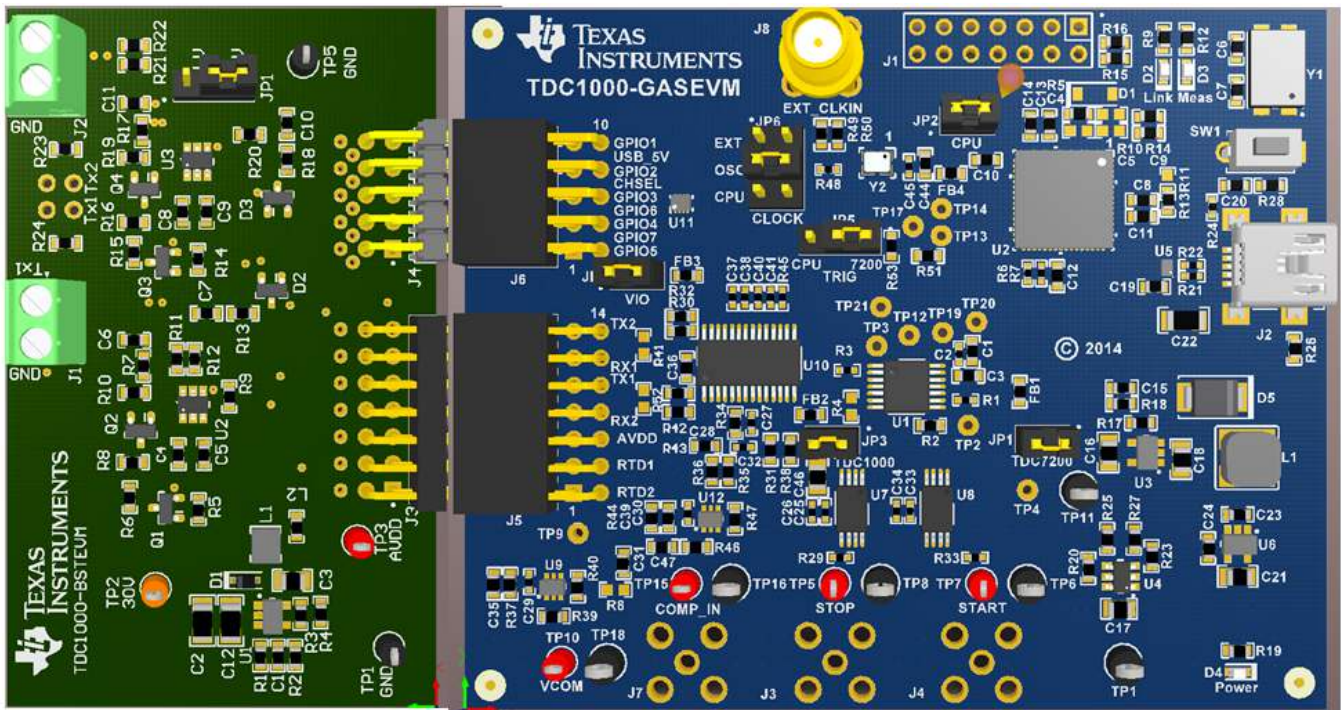

Figure 4. TDC1000-BSTEVM Plugged into TDC1000-TDC7200EVM
2. Plug the TDC1000-BSTEVM (HV board) into the TDC1000-GASEVM (see Figure 4).